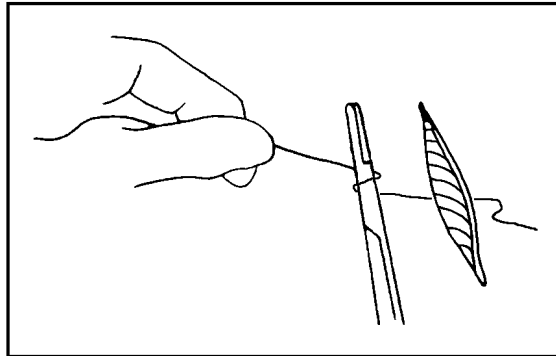

Figure 3-31
- (1) Wrap the long end of the suture once or twice around the needle holder. (See Figure 3-31.)